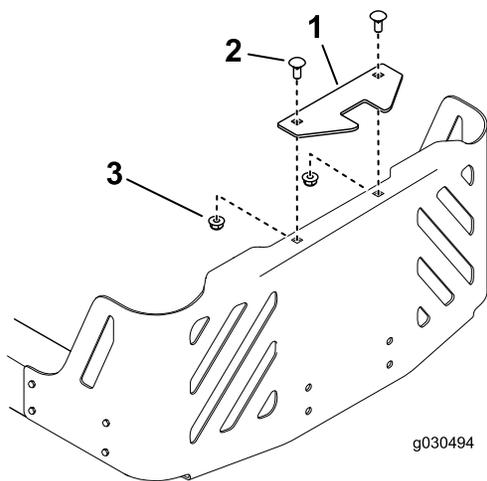

**Figure 15**
- 4. Loosely install the pivot frame to the machine frame using 2 bolts (5/16 x 1 inch) and 2 locknuts (5/16 inch) as shown in Figure 15.
- 6. Tighten the 2 bolts (5/16 x 1 inch) and 2 locknuts (5/16 inch) as shown in Figure 15.